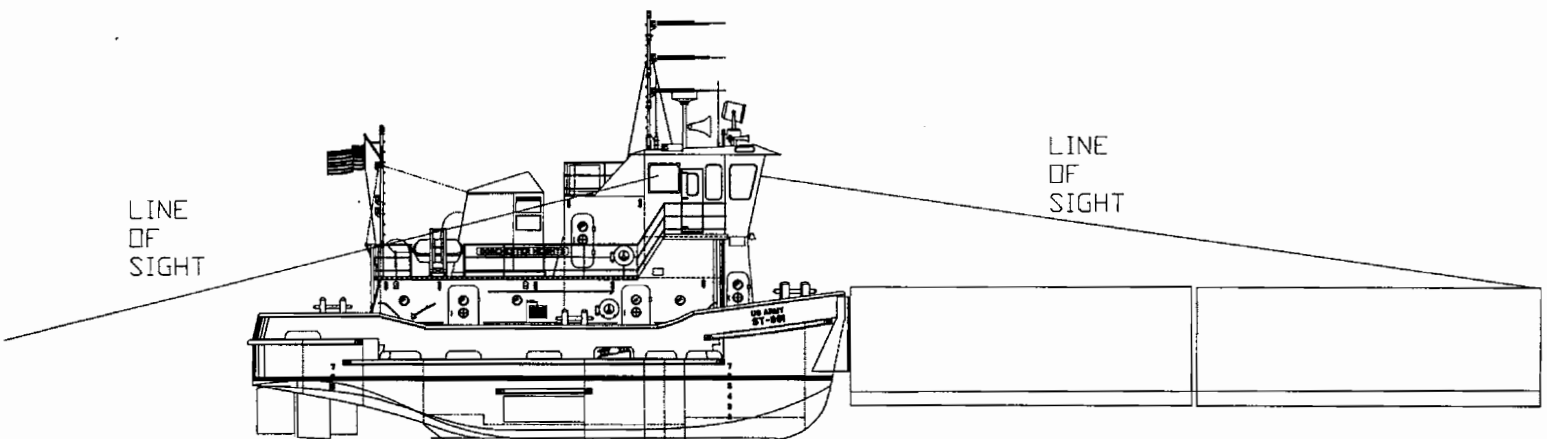

Figure 2-56. Pushing Ahead Configuration, Sheet 1 of 2.
- c. Pushing. Pushing consists of towing by pushing ahead one or more barges using the push knees on the front of the ST and making up wire rope using the towing winches, button chocks, and barge towing chocks. Typically, a rope is made up from the forward bitt, through the bull nose, and to the center bitt on the barge. The capstan may be used for this operation if needed. A typical arrangement for such an operation is provided in Figure 2-56.